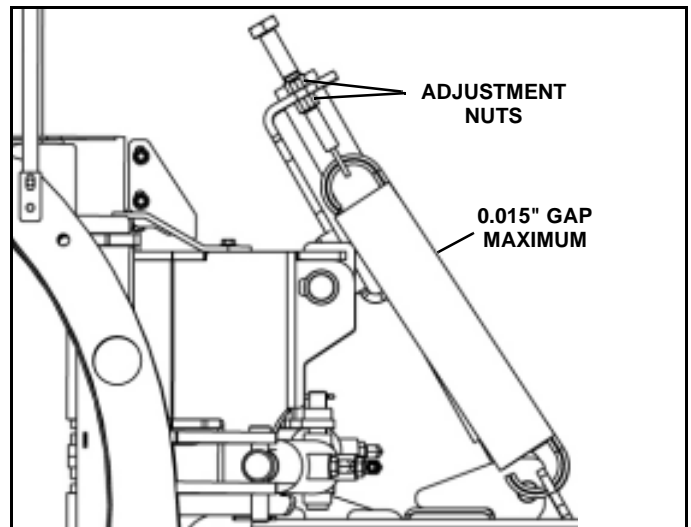

Figure 1-42
2. Check gap on springs with a feeler gauge. The gap between the coils should be no greater than .015 to .020 inches. (See Figure 1-42).